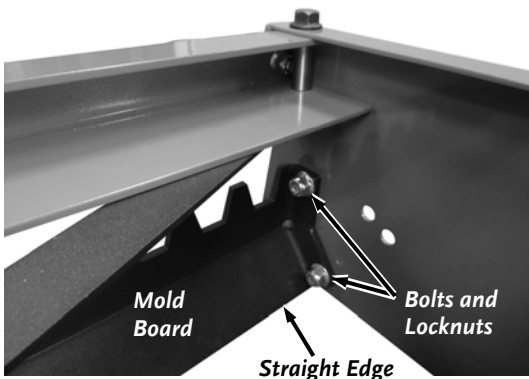

Figure 38
2. Remove the Bolts and Locknuts securing both ends of the Mold Board to the Power Grader Frame using two 9/16" Wrenches (**Figure 38**).